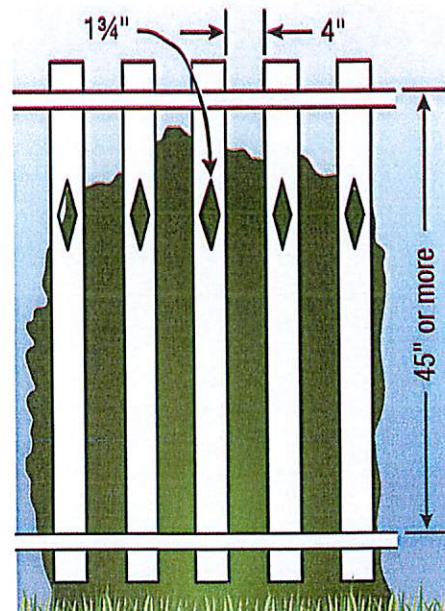

Figure 4
7. **Spacing between vertical members** should not exceed  $1\frac{3}{4}$  inches in width. Where there are decorative cutouts, spacing within the cutouts should not exceed  $1\frac{3}{4}$  inches in width (figure 4).